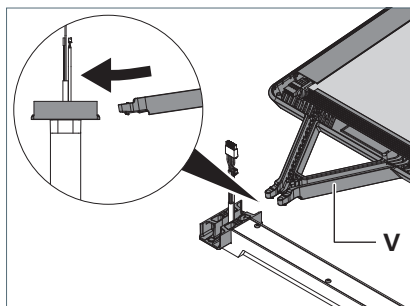

Fig. 12: Mounting luminaire head 1.
1. Insert the supporting arm **V** of the luminaire head tilted downwards slightly into the adapter to the stop, see Fig. 12.